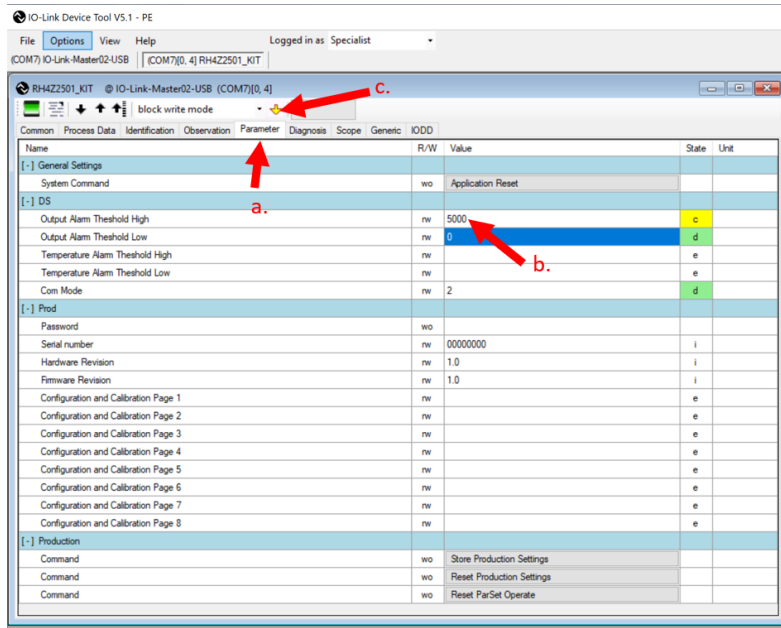

Figure 14. Changing Parameter Values
- b. Set the thresholds in the tables by entering the values to the fields, see Figure 14
- c. Write the NVRAM by clicking on the icon, see Figure 14.